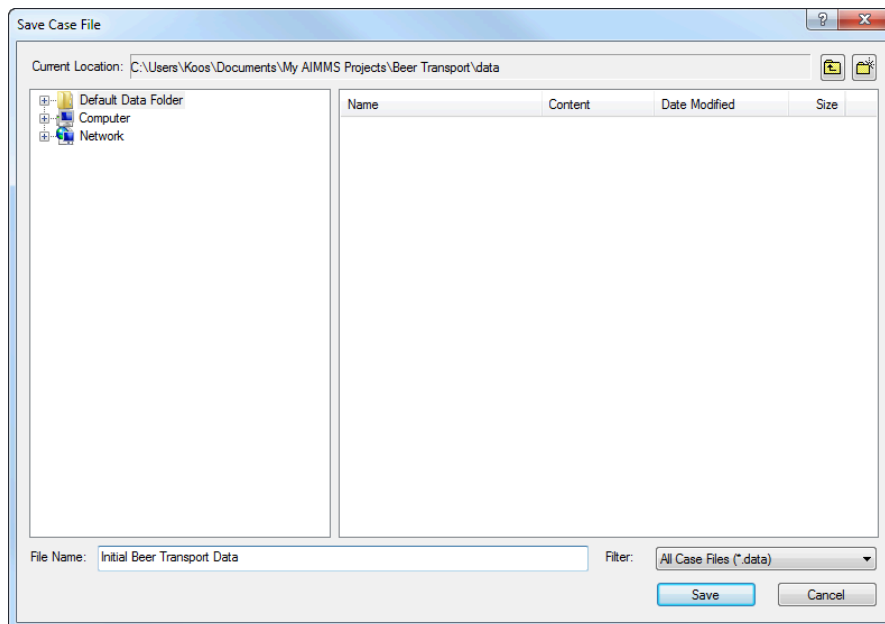

Figure 4.6: Save Case dialog box
- ▶ in the **Save Case** dialog box (see Figure 4.6) enter the name 'Initial Beer Transport Data' in the 'Name' field (without the quotes), and